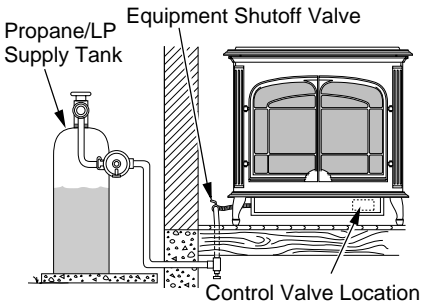

Figure 18 - Checking Gas Joints
3. Check all joints from gas meter for natural or propane/LP supply to equipment shutoff valve (see Figure 18 or 19, page 14). Apply a non-corrosive leak detection fluid to gas joints. Bubbles forming show a leak.
4. Check all joints from equipment shutoff valve to control valve (see Figure 18 or 19). Apply a noncorrosive leak detection fluid to gas joints. Bubbles forming show a leak.